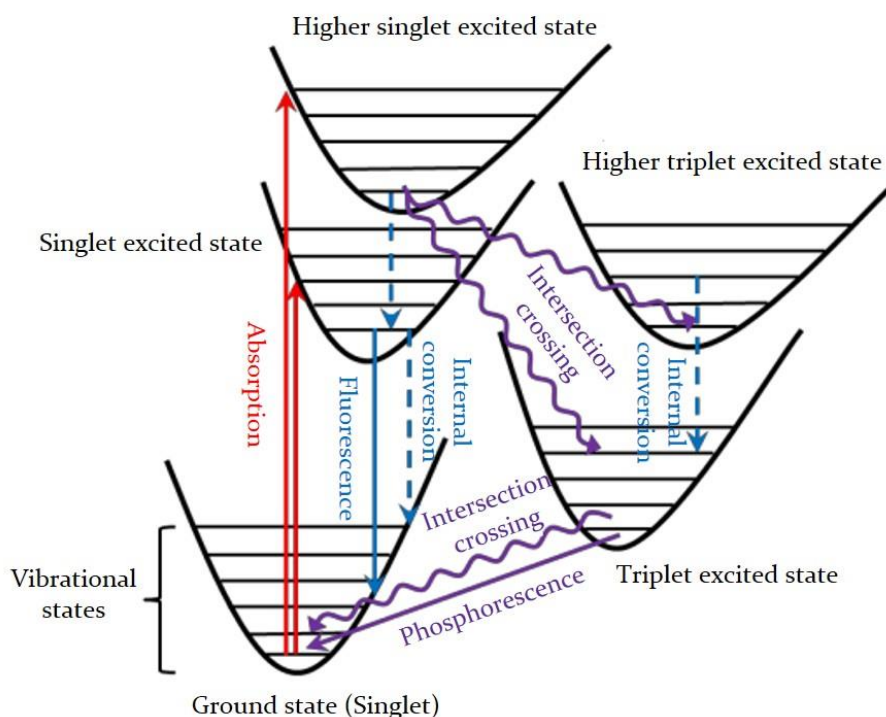

Fig. 1 Jablonski energy diagram
The key photophysical processes, which can be described by Jablonski energy diagram, as shown in Fig. 1. MOMAP can simulate the spectrum of a given molecule, including the absorption, fluorescence and phosphorescence spectrum. In addition, MOMAP is also able to calculate transition rate constants between two electronic states as well, including the radiative and non-radiative decay rate constants for the internal conversion (IC) process and intersystem crossing (ISC) process.